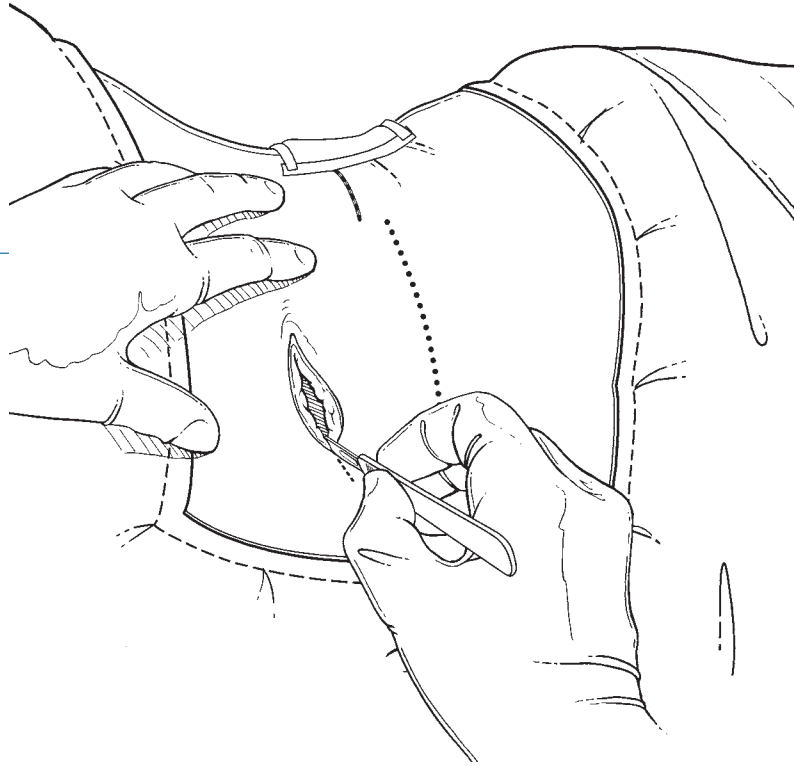

FIGURE 46
- 2 Make an incision equal to the length of the neurostimulator (FIGURE 46.)